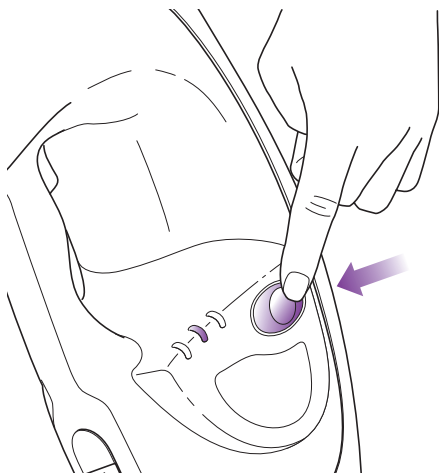

fig. 9
- 3** Press the **ON/STEAM SETTING** button once for **DUST** setting (**DUST** lighted setting indicator will flash and turn solid blue when it is ready to use). **DUST** setting is a light steam for a quick dusting and best dry time. (fig. 9)